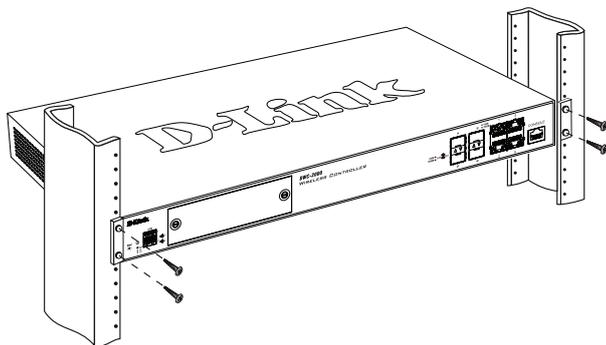

Figure 6. Mount into the Rack
2. Use the screws provided with the equipment rack to mount the device in the rack as shown in **Figure 6**.